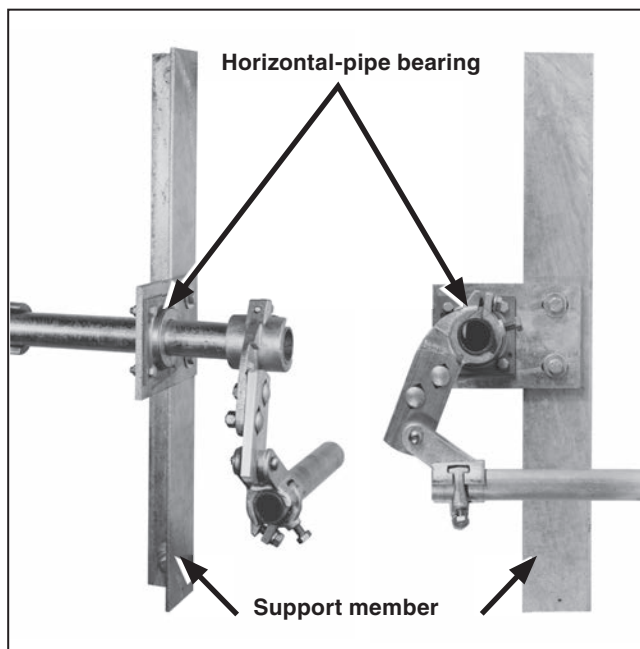

Figure 6. Mounting the horizontal-pipe bearing.
- STEP 5.** Mount the horizontal-pipe bearing on its support member as shown on the erection drawing. See Figure 6.